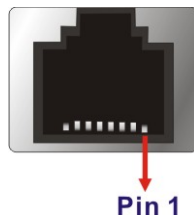

Figure 4-21: Ethernet Connector
- CN Pinouts:**See **Table 4-1** and **Figure 4-21**